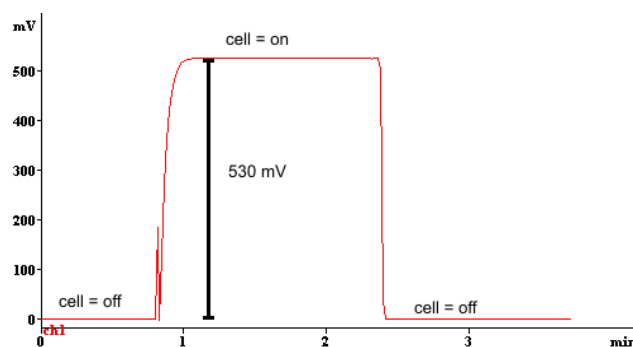

Fig. 3. Measuring output with dummy cell off and on at 5 nA/V, for other settings see Table I.
4. Calculate the difference in output voltage measured with 'Cell on' and 'Cell off' (Fig. 3).